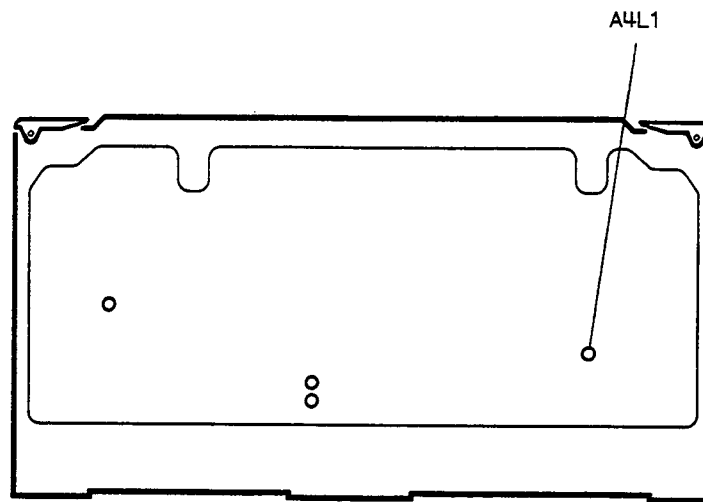

Figure 3-4. A4L1 Location
4. Using a non-metallic tool, adjust A4L1 (see figure 3-4) to center the needle on the display.